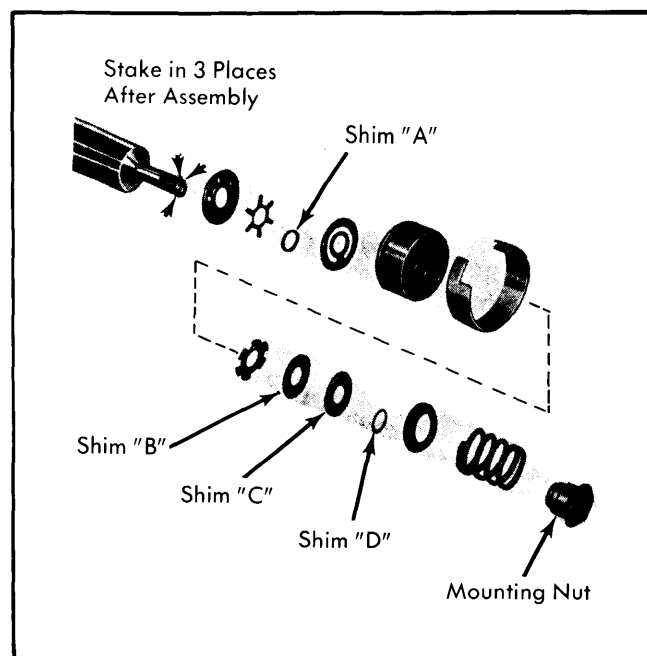

Fig. 2 Reassembly Sequence for Buffer Valve. Assemble Components Over Strut Shaft Stem. Refer to Table for Correct Shim Thickness.
**Reassembly** – Reassembly buffer valve. See Fig. 2. Refill strut tube with fluid (10 ozs. for Coupe and 7 ozs. for others). Slowly insert strut assembly into tube exhausting air. Fit top cap assembly over strut shaft. This will seal tube. Make sure seals and hose fit properly. Tighten lock ring nut and stake in three places.